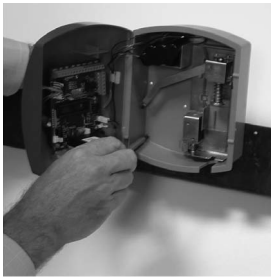

Fig 2.3
- Secure the Sentry 500 to the ceiling bracket (sold separately) using the appropriate holes and fix bracket to ceiling structure (fig 2.3).